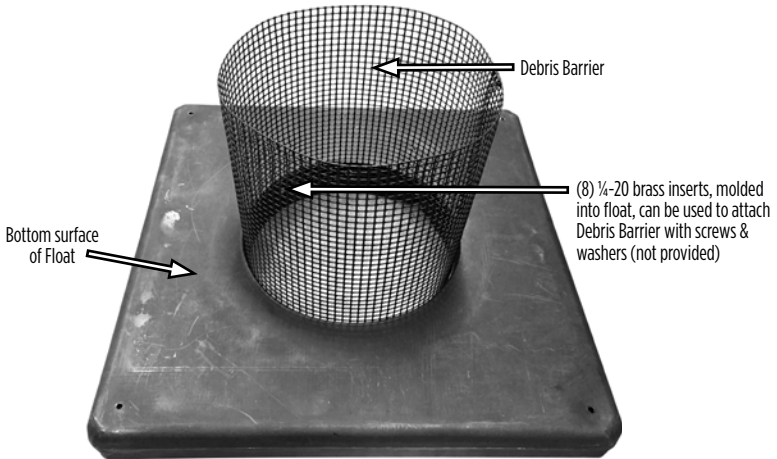

Figure 11
Material that should be considered for constructing after-market debris barriers are mesh type configurations, either using plastic or non-corrosive metal material. The barrier should be installed around the perimeter of the float's inner diameter (Figure 11). For convenience (8) ¼-20 brass inserts have been molded into the perimeter of the float's inner diameter. Also note it is important to keep the barrier away from the flow of water around the motor. Placing barrier material across the flow of water along the motor will significantly affect the motor's ability to cool, especially once the barrier material becomes blocked with debris, thereby shortening the life of the unit.